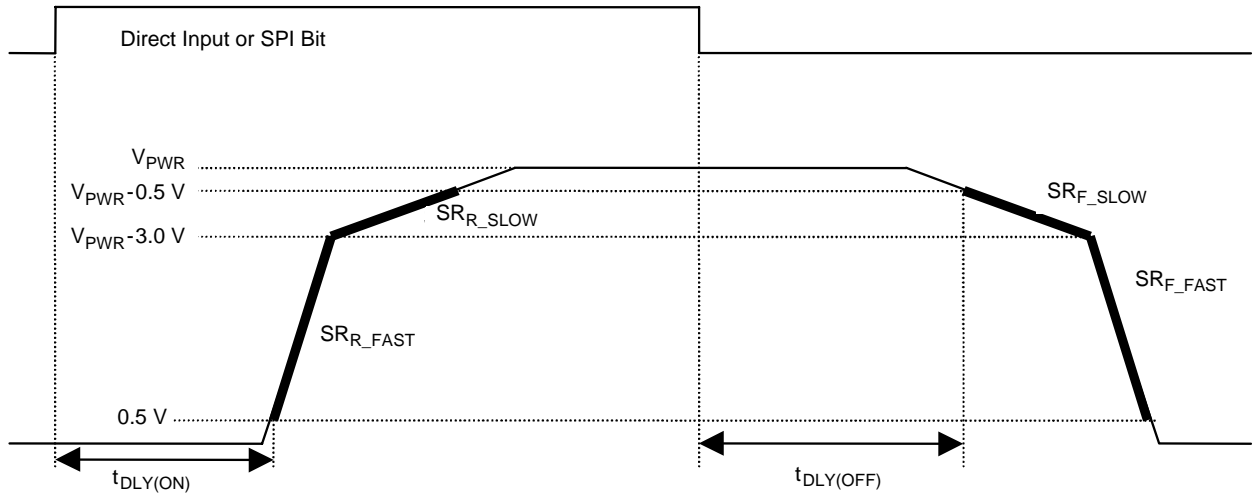

Figure 5. Output Slew Rates and Time Delays, High Side
27. High-side output rise and fall fast slew rates measured across a 5.0 Ω resistive load at high-side output = 0.5 V to V_{PWR}-3.0 V (see Figure 5, page 17). These parameters are guaranteed by process monitoring.
28. High-side output rise and fall slow slew rates measured across a 5.0 Ω resistive load at high-side output = 0.5 V to V_{PWR}-3.0 V (see Figure 5, page 17). These parameters are guaranteed by process monitoring.
29. High-side output turn-ON delay time measured from 50% of the rising IHS to 0.5 V of output OFF with R_L = 27 Ω resistive load (see Figure 5, page 17).
30. High-side output turn-OFF delay time measured from 50% of the falling IHS to V_{PWR}-2.0 V of the output OFF with R_L = 27 Ω resistive load (see Figure 5, page 17).